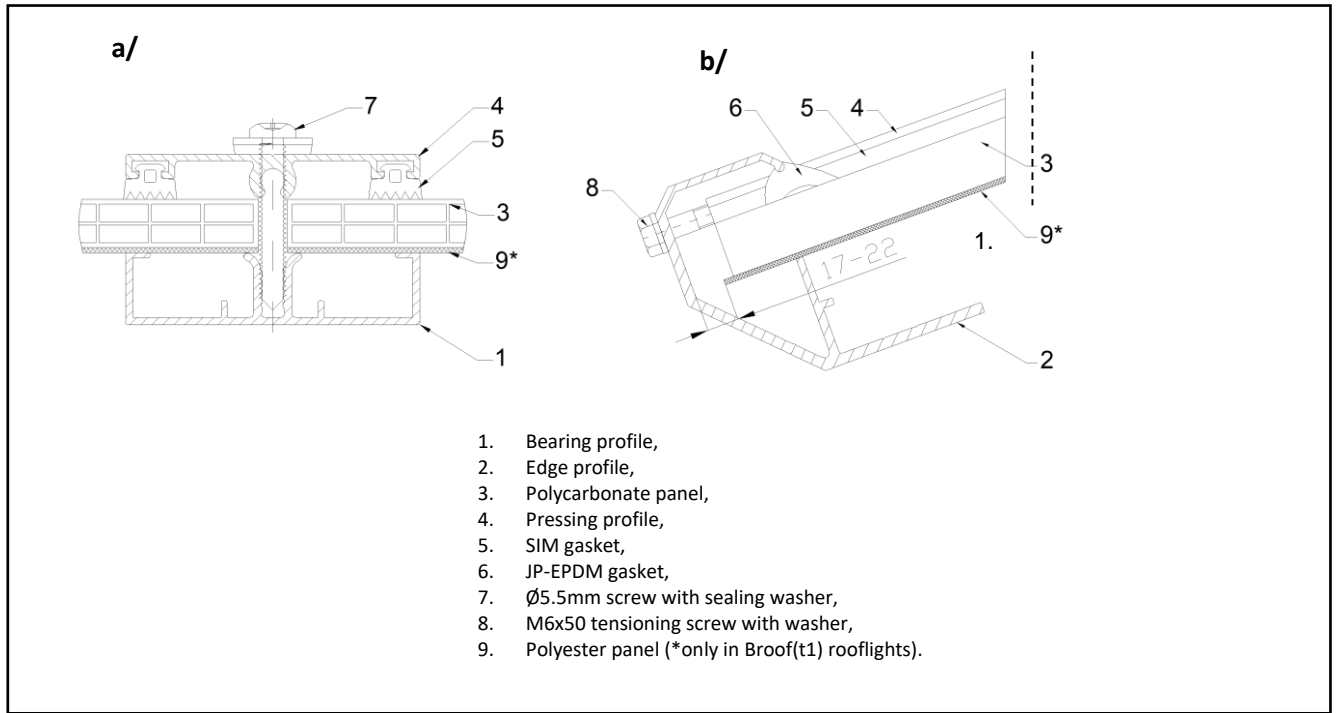
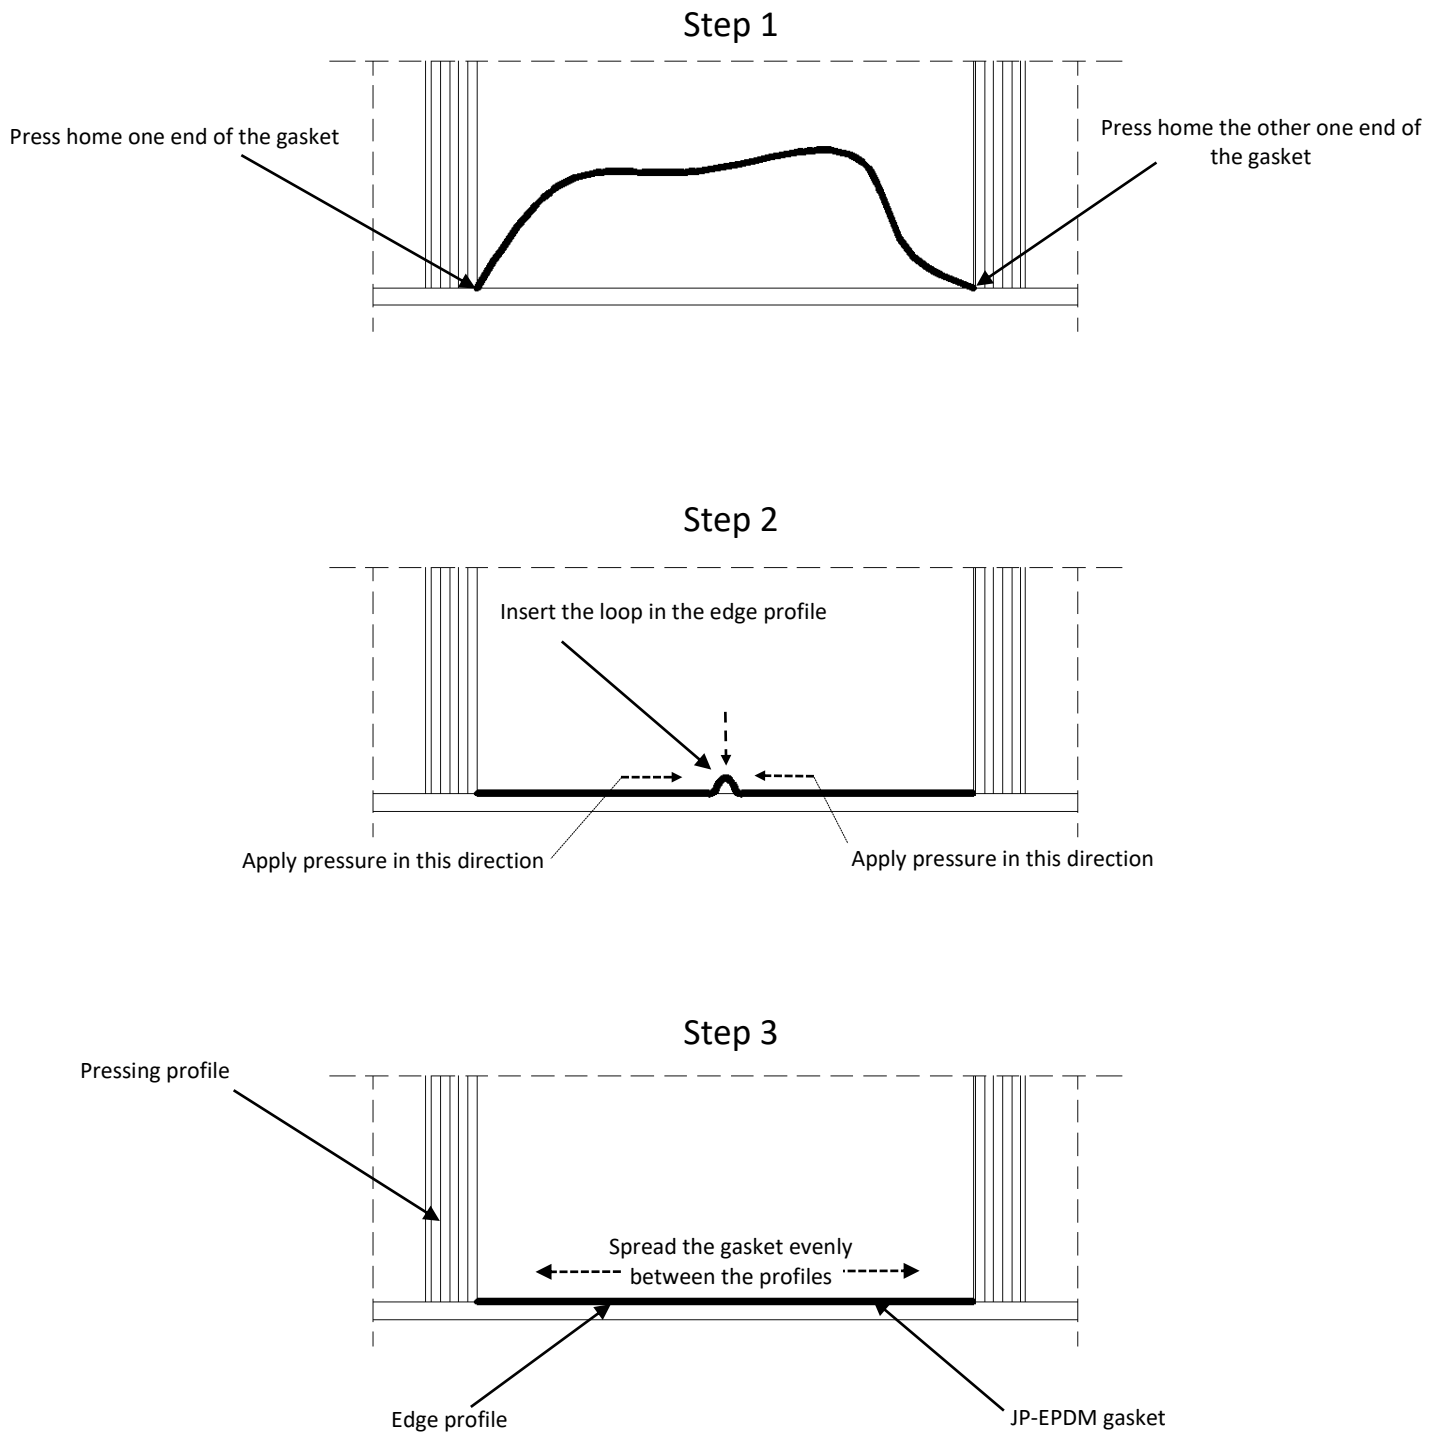
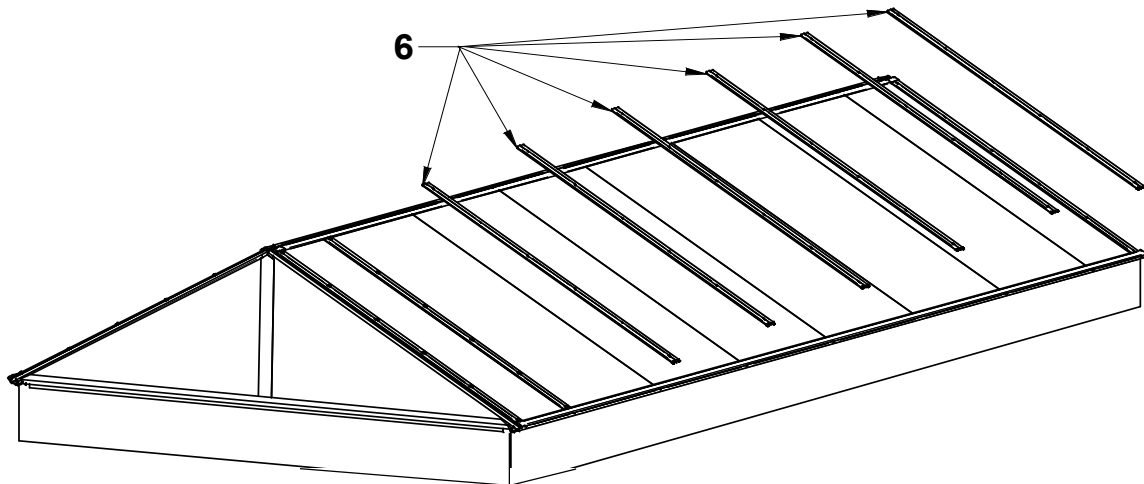

Figure 39 Connection method of: a) pressing profiles with bearing profiles b) edge profiles with pressing profiles
Figure 55 Method of fitting JP-EPDM gasket. A cross-section of a correctly inserted gasket is shown in Figure 39
Figure 75 Assembly of polycarbonate panels and pressing profiles (step 3)
15. Fix each pressing profile at both ends to the edge profile using M6x50 mm screws with washers, and next tension the screw (Figure 39/b).
21. Under deeper pressing profiles lay polycarbonate strips. Each pressing profile perpendicular to the edge profiles should be fixed to the edge profile using M6x50 mm screws with washers and initially tensioned (Figure 39).
24. Press down the sections of JP-EPDM gasket between the edge profile and PCA panel according to (Figure 55 Method of fitting JP-EPDM gasket. A cross-section of a correctly inserted gasket is shown in Figure 39). JP-EPDM gaskets are supplied in sections. **Important! Do not trim the supplied gasket sections!** Shortening may cause the rooflight to lose its watertightness. Gaskets dedicated to the fields on both sides of the vent and the terminal fields have non-standard lengths. This gasket should be cut to the width of the field where it will be applied plus a 2 cm margin. If the width of the field exceeds the dimension of the gasket, fill the space with two equal sections of the gasket, keeping a margin of 2 cm. Now proceed according to (Figure 52 Fitting the end panel cover strip on 80 profile system). Correctly placed in the gasket approved in as per (Figure 39)
14. Press down the sections of JP-EPDM between the edge of the edge profile and PCA panel according to (Figure 55 Method of fitting JP-EPDM gasket. A cross-section of a correctly inserted gasket is shown in Figure 39). JP-EPDM gaskets are supplied in sections. **Important! Do not trim the supplied sections! Shortening may cause the rooflight to lose its watertightness.** Gaskets dedicated to the fields on both sides of the vent and the terminal fields have non-standard lengths. This gasket should be cut to the width of the field where it will be applied plus a 2 cm margin. If the width of the field exceeds the dimension of the gasket, fill the space with two equal sections of the gasket, keeping a margin of 2 cm. Now proceed according to (Figure 52 Fitting the end panel cover strip on 80 profile system). A cross-section of a correctly inserted gasket is shown in (Figure 75 Assembly of polycarbonate panels and pressing profiles (step 3)).